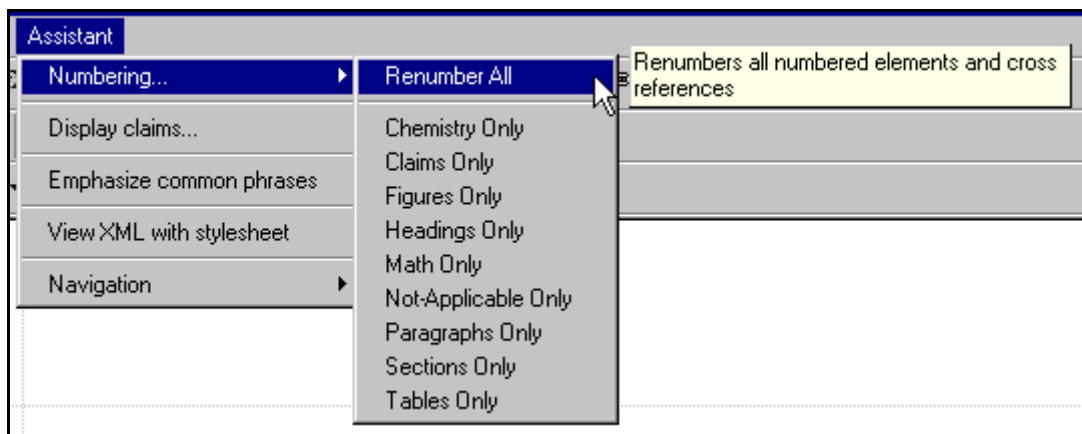

Figure 5-6 Renumbering Menu
3. Select the item you wish to renumber or select **Renumber all** (see Figure 5-6).